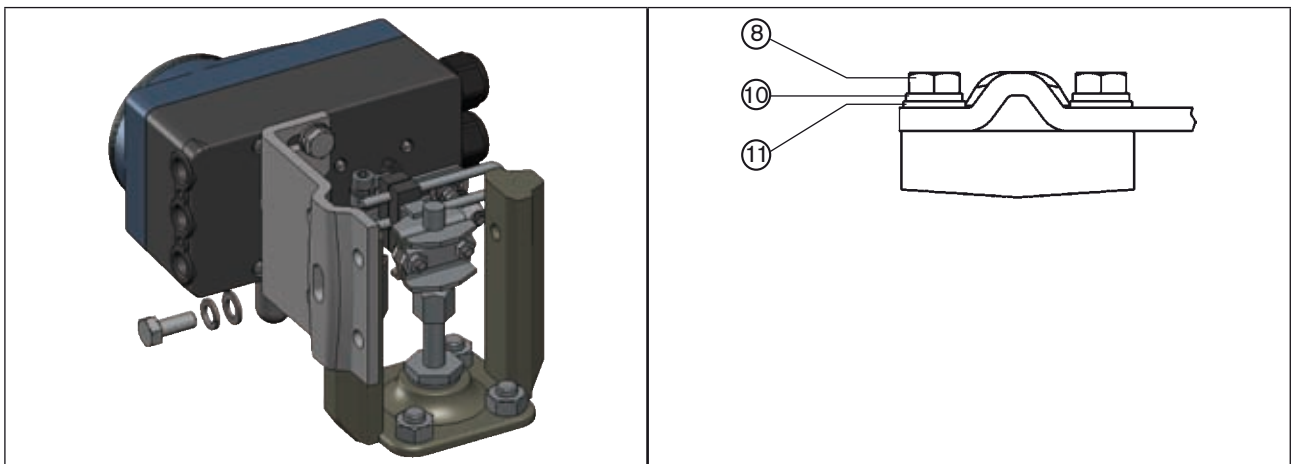

Fig. 17: Attach positioner with mounting bracket; for actuators with cast frame
→ Attach mounting bracket to the cast frame with one or more hexagon bolts ⑧, washers ⑪ and circlips ⑩ (see Fig. 17:).